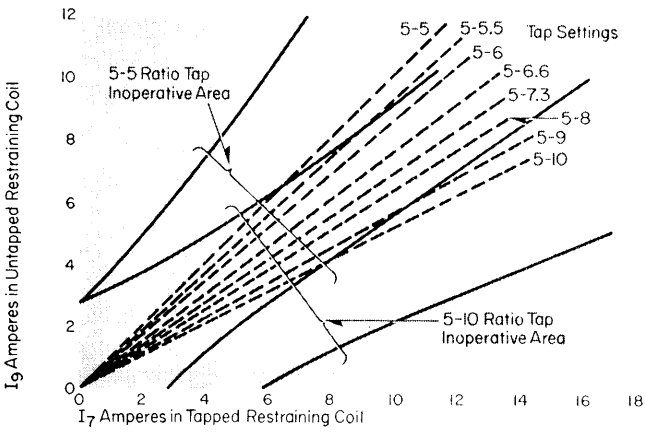

Figure 4 183A161
The operating characteristics of the CA relay for normal through load current and through fault current are shown in Figures 4 and 5. When the currents flowing into
In Figures 4 and 5 the two curves going with the 5-5 tap are tied together with a bracket to indicate that they go together. Similarly, the two curves for the 5-10 tap are also tied together. The center lines between pairs of curves are shown for all taps. The paired curves, bounding the inoperative areas, are not shown for all taps. These curves may be determined approximately by means of the following formulas:
As an example of the degree of accuracy of the formula consider the point $I_7=43.5$, and $I_9=30$; read from the lower curve for the 5-5 tap, Figure 4. Applying the formula, equation (2), the calculated value of I_7 is found to be 45 amperes, which is fairly